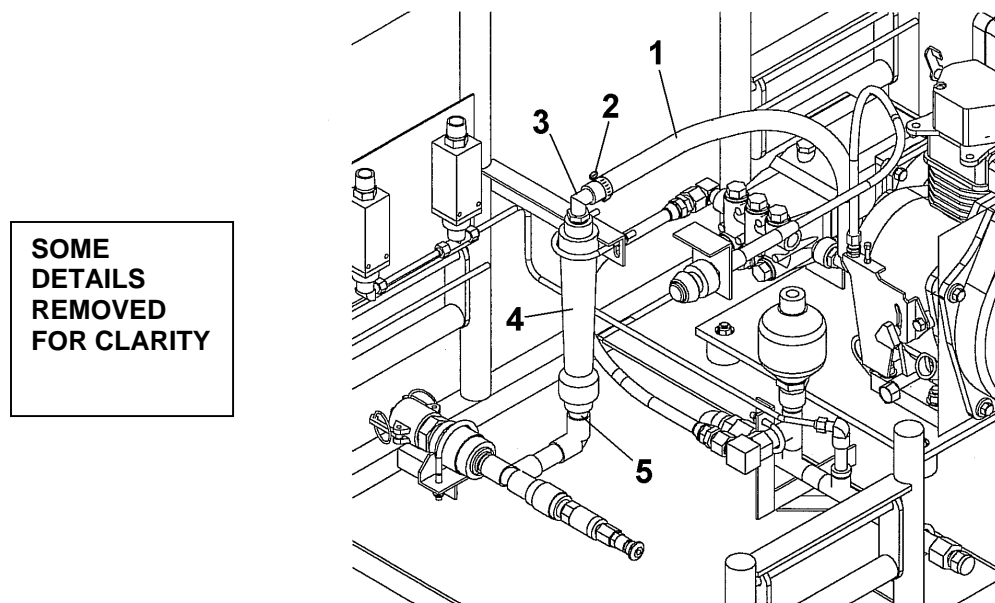

Figure 1. Flow meter on High-Pressure Pump Module.
1. Loosen upper hose clamp (2) on feed hose (1). See Figure 1.